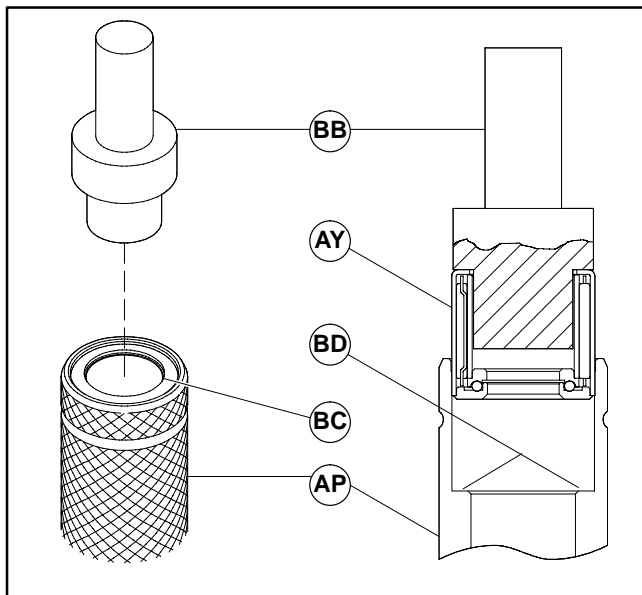

Figure 23
Use the following procedure to install pulley bearings (AY of Figure 23).
2. Install bearing insertion tool (BB of Figure 23), part number ☆25-10 in an arbor press.
3. Align bearing insertion tool (BB) with pulley bore (BC).
4. Slide bearing (AY) onto bearing insertion tool.